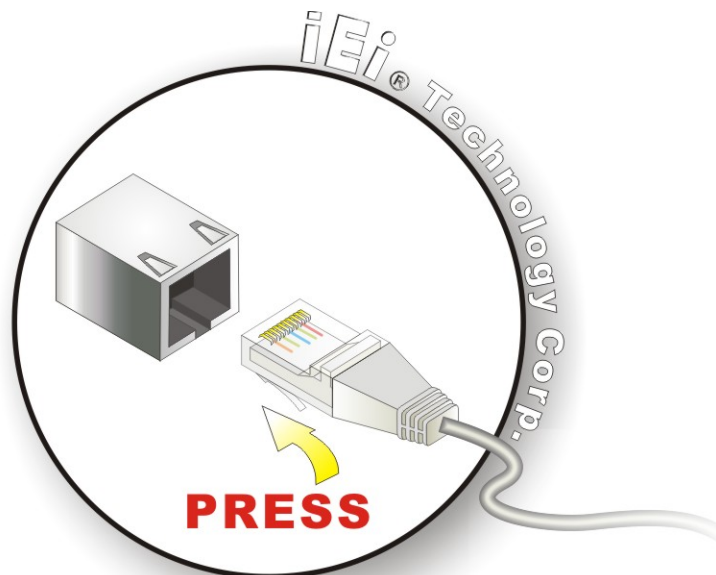

Figure 3-20: LAN Connection
Step 2: Align the connectors. Align the RJ-45 connector on the LAN cable with one of the RJ-45 connectors on the bottom panel of the AFL-915 series. See **Figure 3-20**.